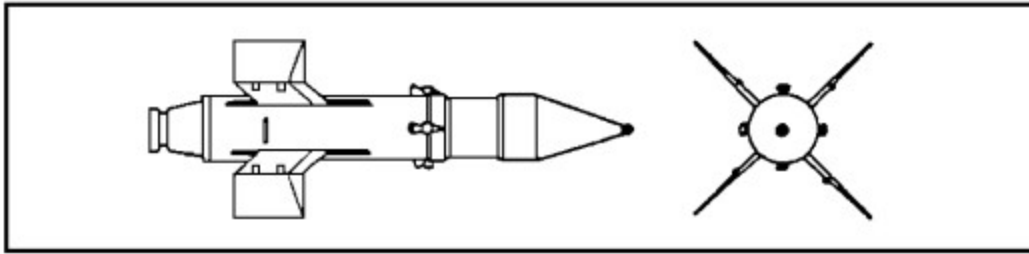

Figure 2-7. Antitank Guided Missile AT-3/SAGGER.
(3) Limitations. The SWATTERs with manual command-to-line-of-sight (MCLOS) guidance have a major disadvantage: the operator must track target and missile simultaneously and guide the missile to the target. The slow flight speed makes evasive action (by the target) an effective countermeasure, especially at long ranges.
(4) Remarks. The Soviets introduced SWATTER A in 1960, SWATTER B in 1965, and SWATTER C in 1968-70. The AT-5 SPANDREL is currently replacing the MCLOS-guided BRDM-mounted SWATTERs. The helicopter-mounted SWATTER C, retrofitted with a semi-automatic IR/radio guidance system, was apparently an interim measure pending full deployment of the longer-range, second-generation missile AT-6/SPIRAL.
b. Antitank Guided Missile AT-3/SAGGER (Figure 2-7). The following paragraphs discuss the AT-3/SAGGER Guided Missile.
(1) Description. The SAGGER is a wire-guided ATGM with a HEAT warhead. The missile is 864 millimeters in length, 120 millimeters in diameter, and 11.3 kilograms in weight. It has several launch configurations: